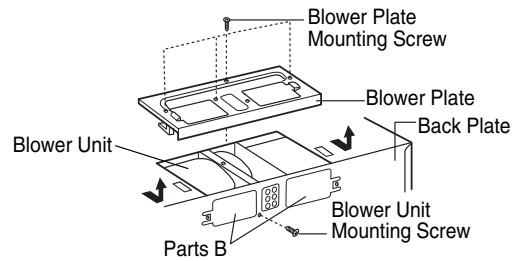

Figure 14
1. Remove one blower unit mounting screw and one or several blower plate mounting screw(s). Remove the blower plate from cabinet. See Figure 14.